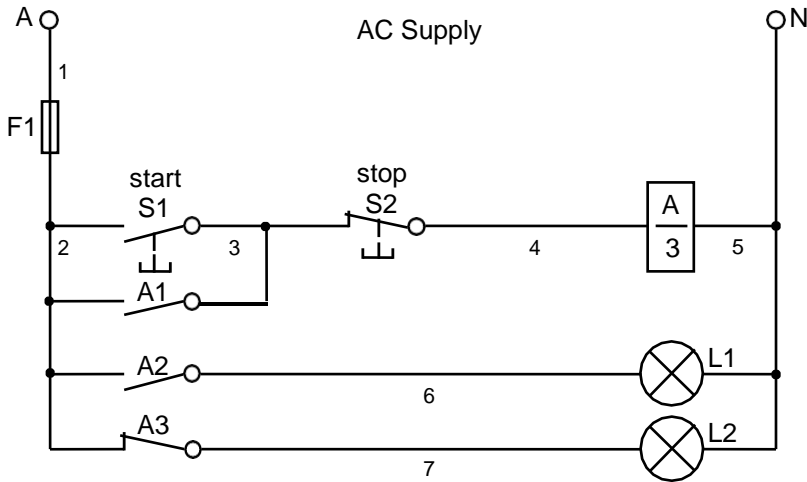

Figure 1
6. Using the grid on the next page convert the circuit diagram shown in figure 1 to a circuit diagram that has a **vertical** layout.